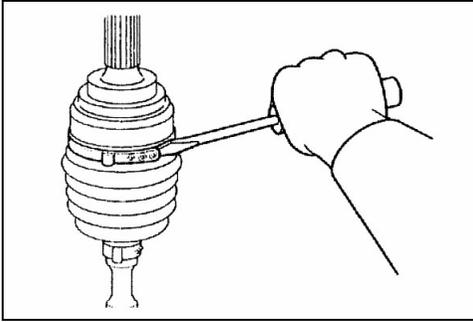

Fig.12-32
① Remove the R.J. boot bands (large and small).
② Remove the R.J. boot.
③ Wrap a plastic tape around the shaft spline, and assemble the R.J. boot band and B.J. boot.(see Fig.12-32)。